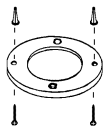
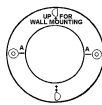

FIGURE 1
FIGURE 2
3. After selecting the proper smoke alarm location as described in Section 1, attach the mounting plate to the ceiling as shown in Figure 1. For wall mounting see Figure 2. Place mounting plate on the wall. Be sure the "UP FOR WALL MOUNTING" text and arrow are facing up. Use the screws and anchors provided to secure the mounting plate (use 3/16" drill bit for anchors).
To replace the battery, remove the alarm from the mounting plate by rotating the alarm in the direction of the "OFF" arrow on the cover (see Section 3, Figure 1).